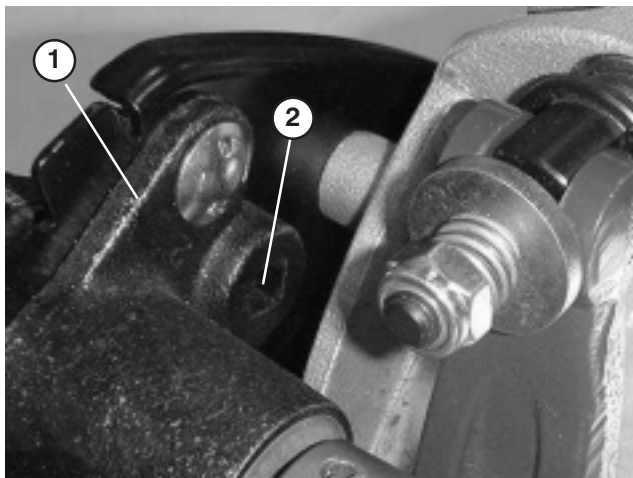

Figure 39
B. Using a 3/8 in. drive torque wrench, rotate the bearing housing with 35–40 in.-lb. of torque to set belt tension (Fig. 39)
- B. Using a 3/8 in. drive torque wrench, rotate the bearing housing with 35–40 in.-lb. of torque to set belt tension (Fig. 39).